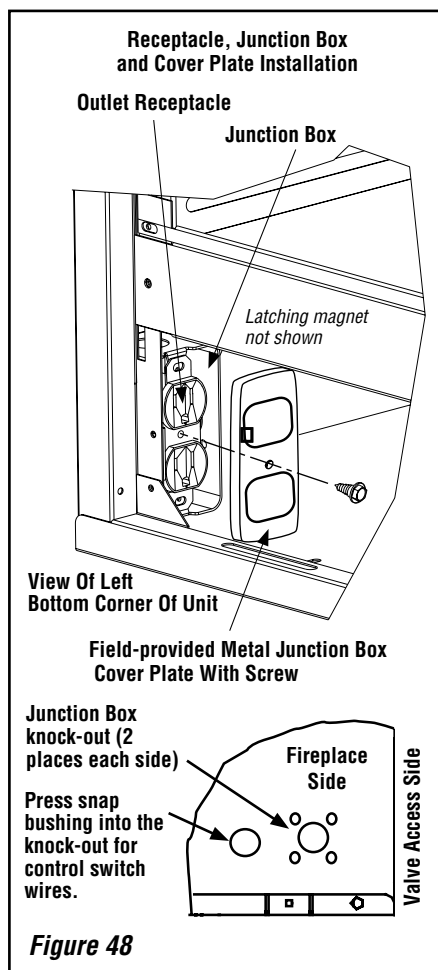

Figure 48
Note: The junction box can be installed in any of the 4 outside corners of the control compartment (outlet installed in front left corner is shown in **Figure 48**). If an optional blower is to be installed place the junction box to the left of the valve in the front corner.
5. After the receptacle/junction box wiring is complete, install the field-provided metal junction box cover plate (see **Figure 48**).